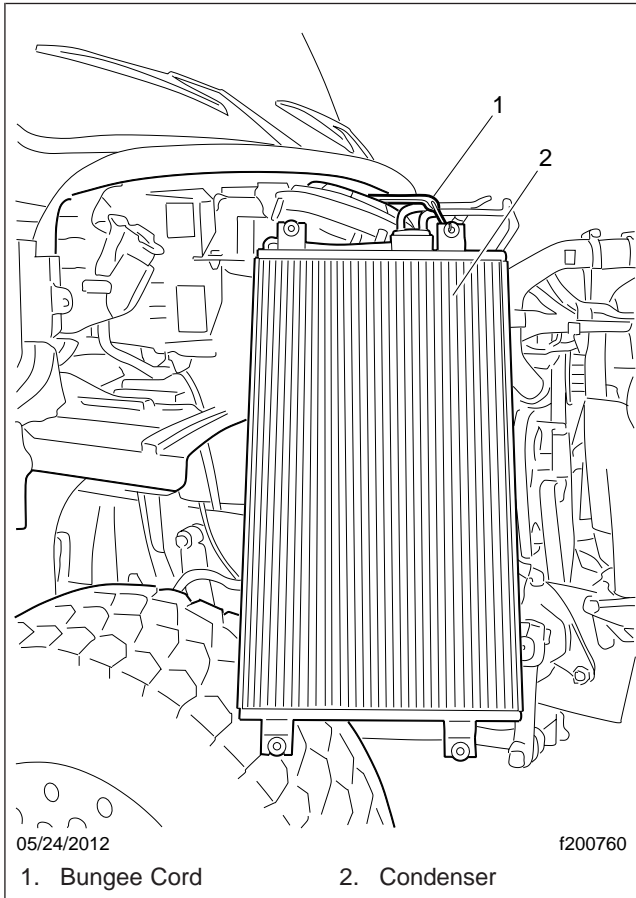

Fig. 5, Securing the A/C Condenser
- 13.4 Carefully move the condenser around and set it on right front tire. Secure it as needed. See **Fig. 5**.